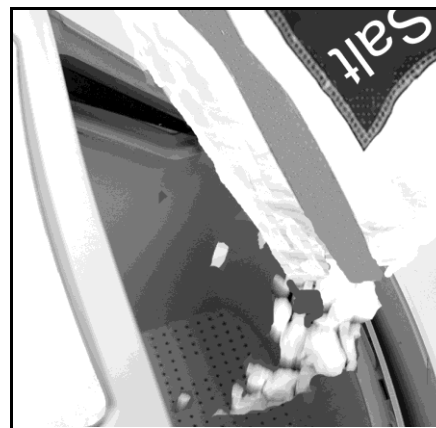

Figure 16: Fill Brine Cabinet With Salt
- B. Fill the brine cabinet with salt. See Figure 16. Use clean, white pellet, solar, cube-type, block, or brick salt. Do not mix different types of salt.